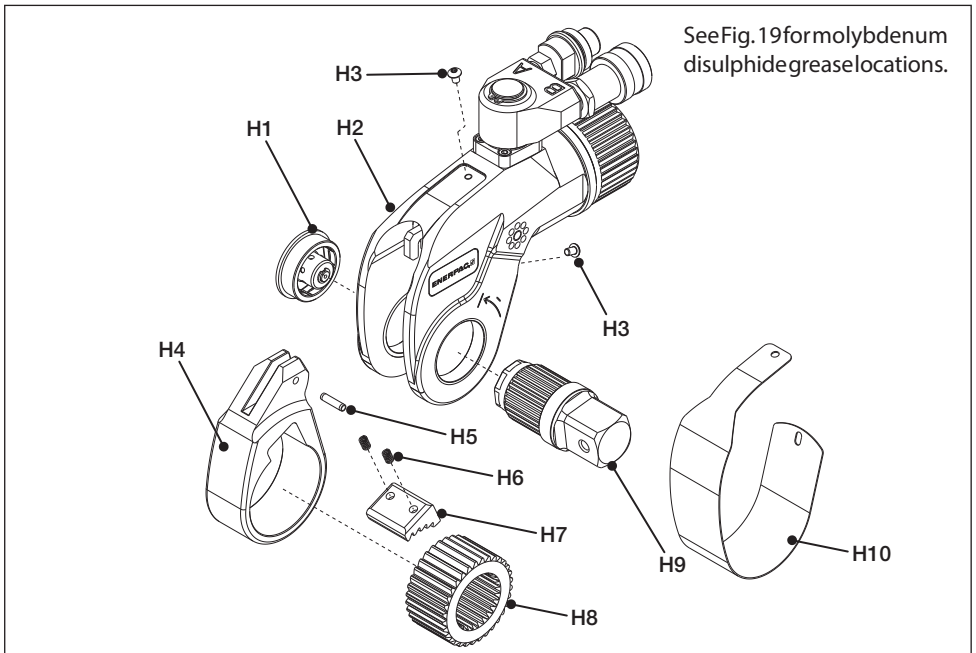

Fig. 18
(Fig. 18, 19 and 20)
NOTICE Be sure that the ratchet lever, drive shoe, ratchet and ratchet lever pin are correctly installed in the following step. Failure to install these parts correctly will result in component damage. Refer to figures 18 and 20.
- Housing (Fig. 18 & 22 item H2)
- Ratchet Lever (Fig. 18 & 22, item H4)
- Drive Shoe (Fig. 18, item H7)
- Ratchet (Fig. 18, item H8)
- Drive Shaft (Fig. 18, item H9)